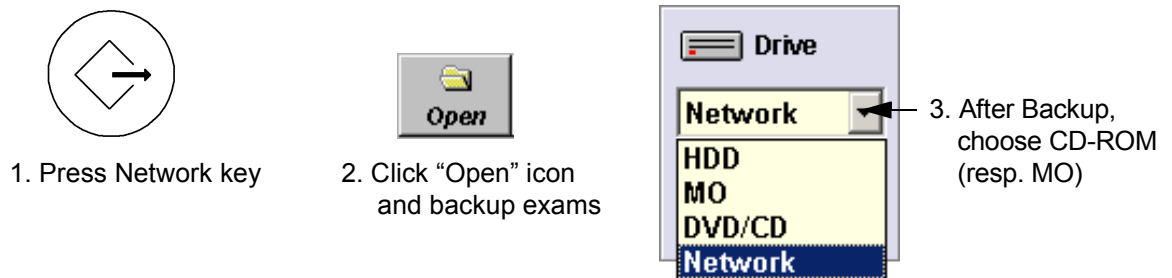

Figure 7-19 To backup exams to CD-ROM resp. MO-Disk
- 2.) Enter "Sonoview" by pressing the **NETWORK** key on the control panel; see Figure 7-19.